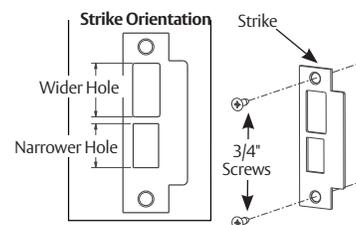

Figure 11
1. Install strike using two (2) 3/4" combination mounting screws. If strike box is needed, insert between strike and door frame. (Figure 11)